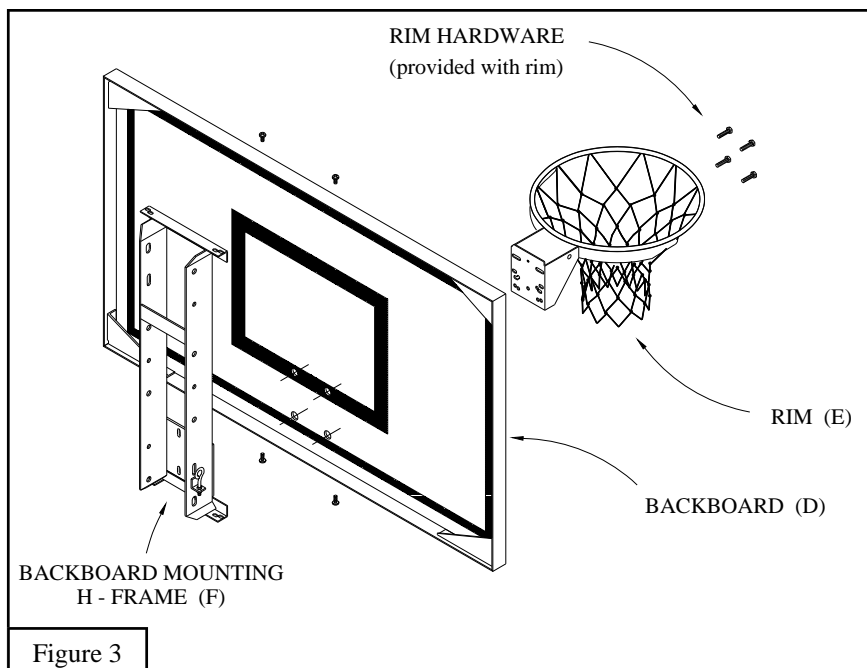

Figure 3
4. Use the instructions supplied with the *Backboard Mounting H-Frame* (F) you have purchased and pre-assemble the *Backboard* (D) and the *Backboard Mounting H-Frame* (F). See Figure 3.
5. Mount the *Rim* (E) and the backboard / H-frame assembly to the *Extension Arm* (B) using the hardware provided with the *Rim* (E).